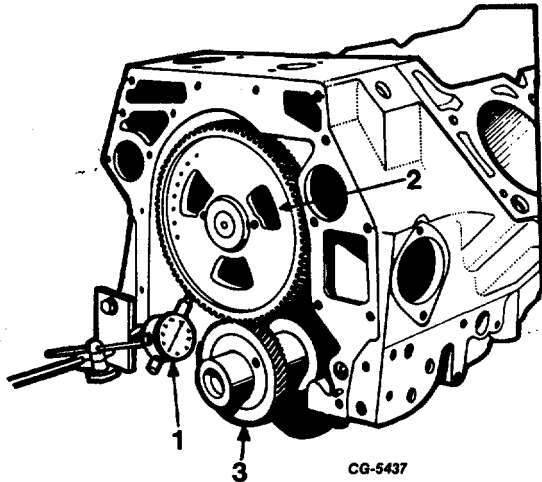

Fig. 145 Checking Camshaft and Crankshaft Gear Backlash
11. Rotate the crankshaft and camshaft to determine that the gears do not bind or interfere. With the use of a dial indicator, Figure 145, check the backlash. See "Specifications" for backlash.